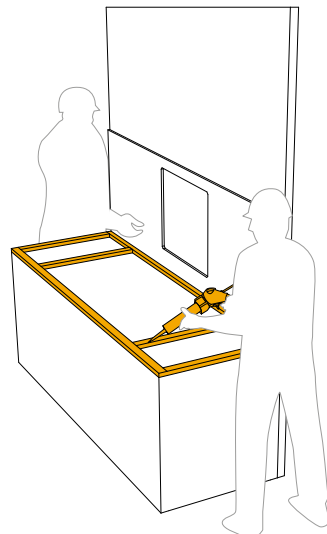

fig. 2
- **6 mm:** we recommend covering the entire surface of the support on which the slab is positioned with a rigid support polypropylene (or similar) (fig. 2). To counter any differences in expansion between the two elements, it is preferable to use an elastic adhesive;
- Apply silicon evenly to the supporting crosspieces to ensure that the slab adheres perfectly (fig. 2);
- Position the countertop vertically to one side of the kitchen units (fig. 2);